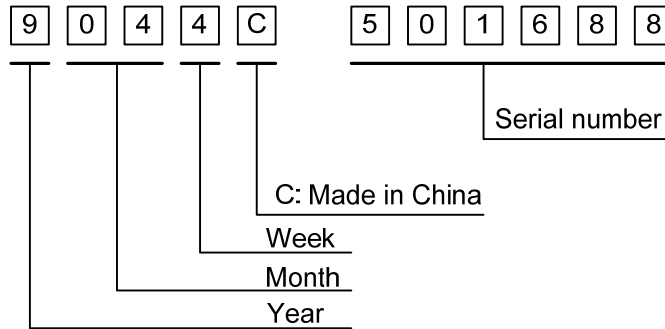

Fig. 13.1
1) The lot mark is showing in Fig.13.1. First 4 digits are used to represent production lot, C represented made in China, and the last 6 digits are the serial number.